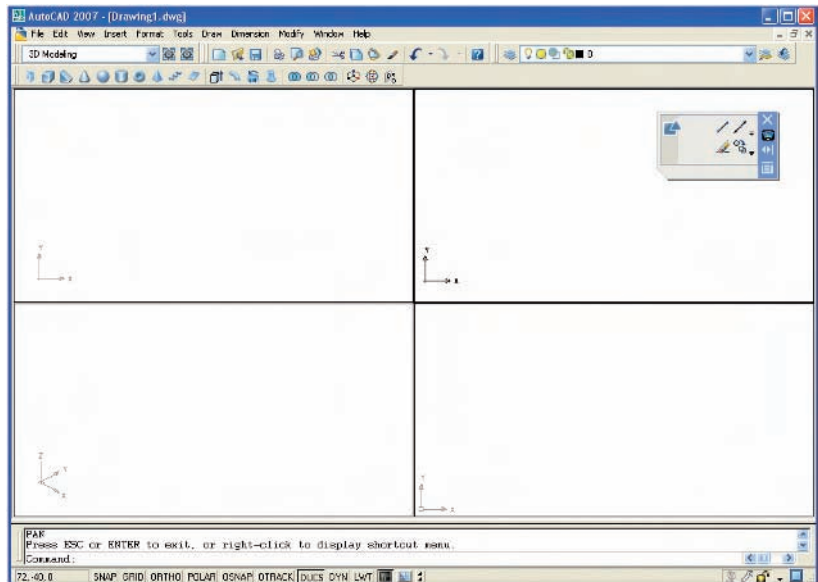

Fig. 14.3 The **Four: Equal** viewports layout
4. Click the **OK** button of the dialog and the AutoCAD 2007 drawing area appears showing the four viewport layout (Fig. 14.3).